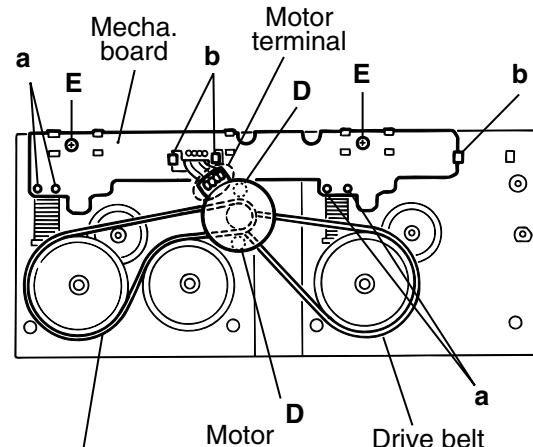
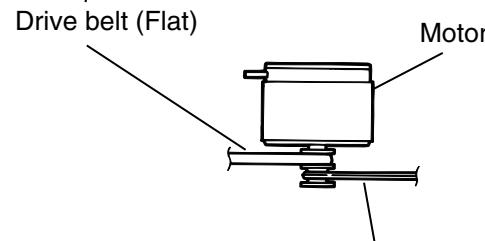

Fig.5
Fig.6
Be careful to grease's splash when the drive belt comes off.(Fig.5, Fig.6)
2. Unsolder the motor terminal.(Fig.5)